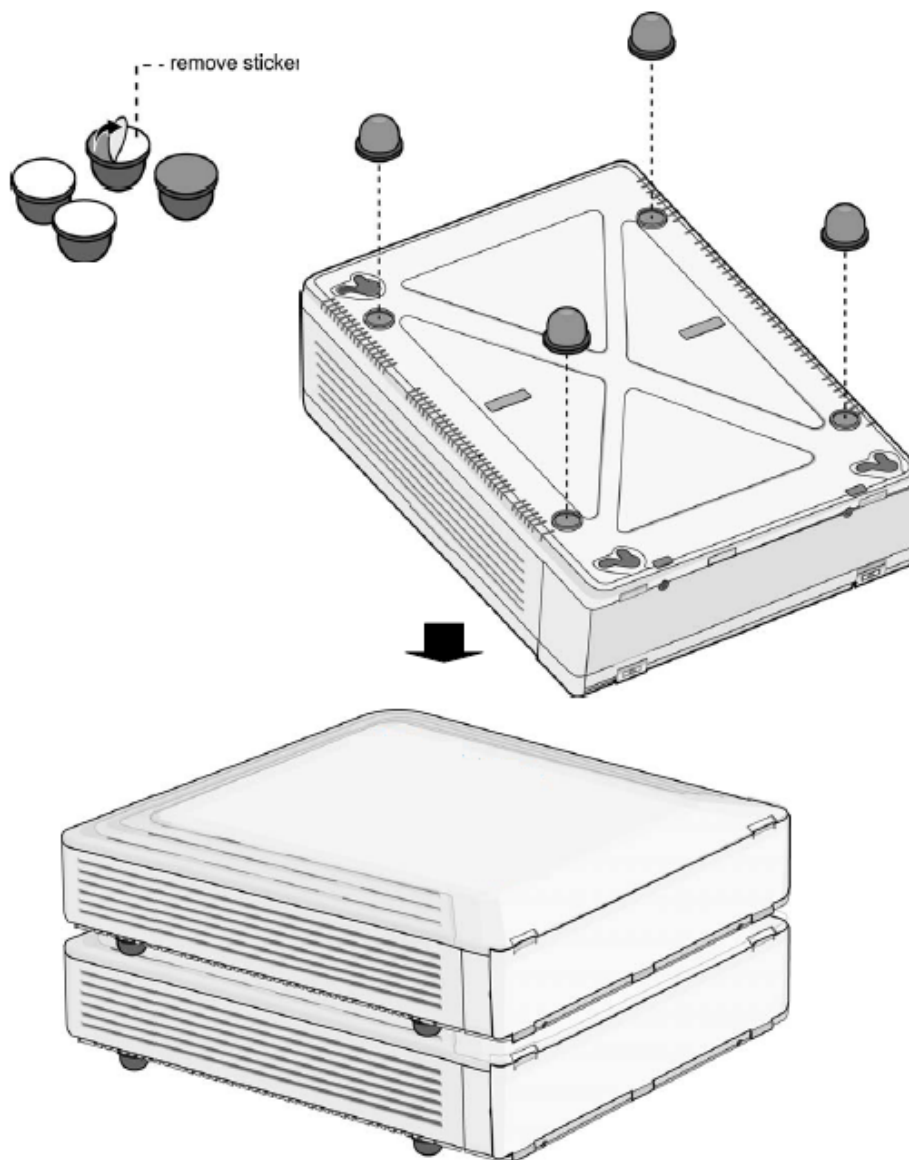

Figure 3-7 Desktop Mounting
1. To attach the rubber feet to the bottom of the SBX IP 320 System as shown in Figure 3-7, first remove the sticker from the rubber feet.